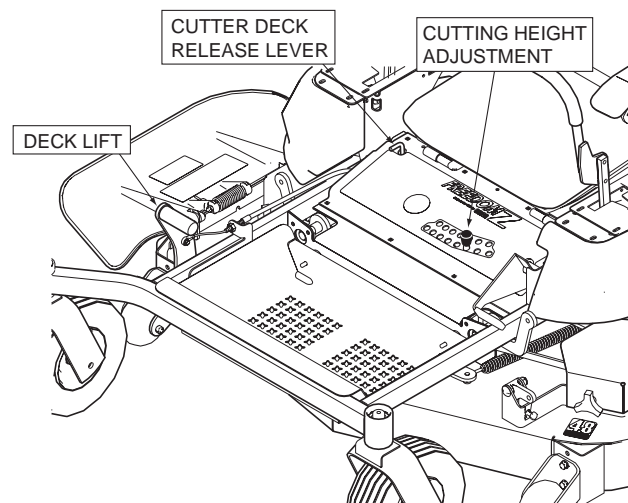

Figure 4-4. Adjusting Cutting Height
2. Push the cutting height adjustment foot pedal all the way forward using your right foot until it locks in place. See Figure 4-4.
3. Insert the pin into the cutting height index at the desired cutting height. Push forward on the deck lift foot lever, hold in place and lift up on the deck release lever. See Figure 4-4. Slowly release the foot pedal. A deck height decal is located on the cutting height index as an aid in adjusting the deck to the desired height. See Figure 4-4.